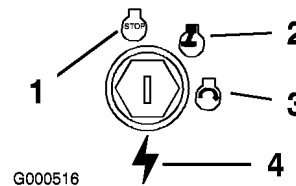

Figure 10
3. Turn the ignition key to Off (Figure 10).